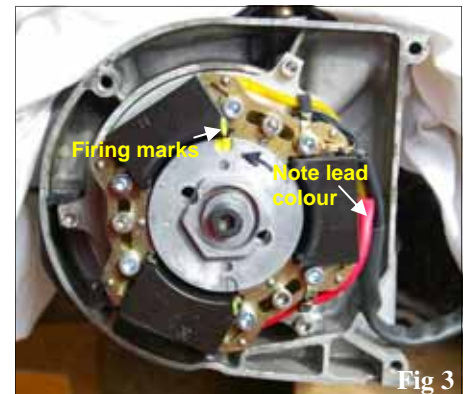

Fig 3
- Step 2** Attach stator to base plate using x3 M5X35 screws through the slotted holes in a midway position. See fig 3.
- Step 4** The spark starts when the line marked on the rotor passes the yellow mark on the edge of the stator cover see fig 3.
- Step 5** See fig 3: With the nearest cylinder (1) set to 3.5mm BTDC (*see below) move the rotor on the crankshaft to align with the stator marking see step 4. Fully tighten the rotor now - recheck the ignition and adjust as required by moving the stator on the x3 slotted holes. Check airgap with rotor and stator is even at 0.5mm, adjust by loosening base plate, releasing screws (M5x16).